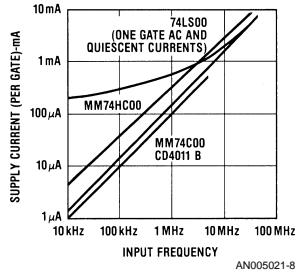
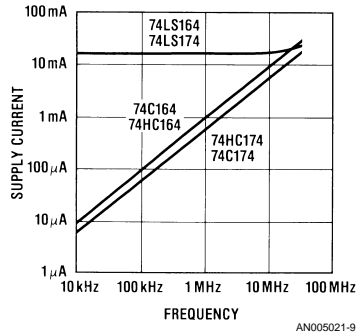

FIGURE 7. Supply Current vs. Input Frequency for Equivalent NAND Gates
FIGURE 8. Supply Current vs. Frequency
The reduction in CMOS power consumption as compared to LSTTL devices is illustrated in Figure 7 and Figure 8. These graphs are comparisons of the typical supply current (I_{CC}) required for equivalent functions in MM54HC/MM74HC, MM54HC/MM74C, CD4000, and 54LS/74LS logic families. The currents were measured at room temperature ($25^\circ C$) with a supply voltage of 5V.
Figure 7 represents the supply current required for a quad NAND gate with one gate in the package switching. The MM54HC/MM74HC family draws slightly more supply current than the 54C/74C and CD4000 series. This is mainly due to the large size of the output buffers necessary to source and sink currents characteristic of the LSTTL family. Other reasons include processing differences and the larger internal circuitry required to drive the output buffers at high frequencies. The frequency at which the CMOS device draws as much power as the LSTTL device, known as the power cross-over-frequency, is about 20 MHz.
In Figure 8, which is a comparison of equivalent flip-flops (174) and shift registers (164) from the different logic families, the power cross-over frequency again occurs at about 20 MHz.